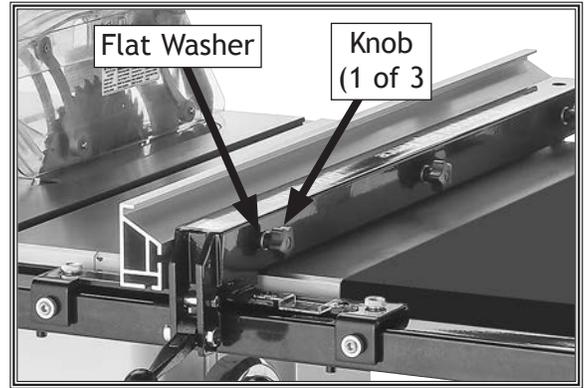

Figure 74. Location of knobs and flat washers securing fence to fence tube.
2. Unthread (3) knobs and (3) flat washers securing fence face to fence tube shown in **Figure 74**, then remove fence.